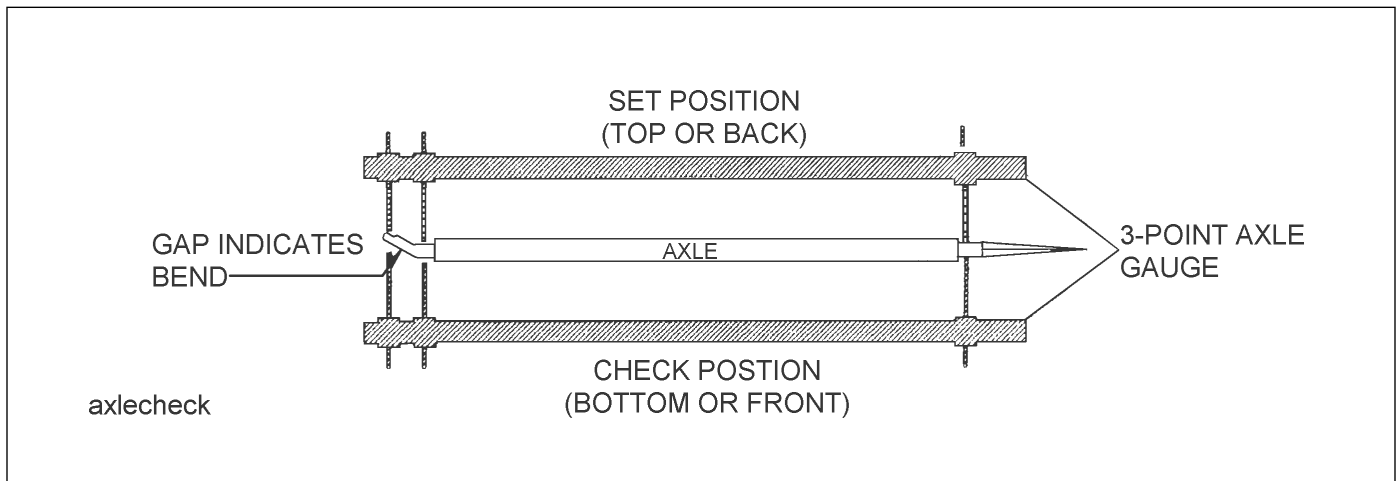

Figure 4-3: Checking Axle for Bend
2. Place a 3-point axle gauge against the front side of the axle, and adjust each axle gauge point to the axle. (Double point end against the inner and outer wheel bearing surfaces of the spindle being checked and the other point on the inner bearing surface on the other spindle (*See Figure 4-3.*)
3. Move the axle gauge and place against the back side of the axle. If either of the points of double point end fails to touch the axle surface, a bent spindle is evident. A point gap of .015" or more is considered excessive tire "toe" and the axle must be replaced (*See Figure 4-3.*)